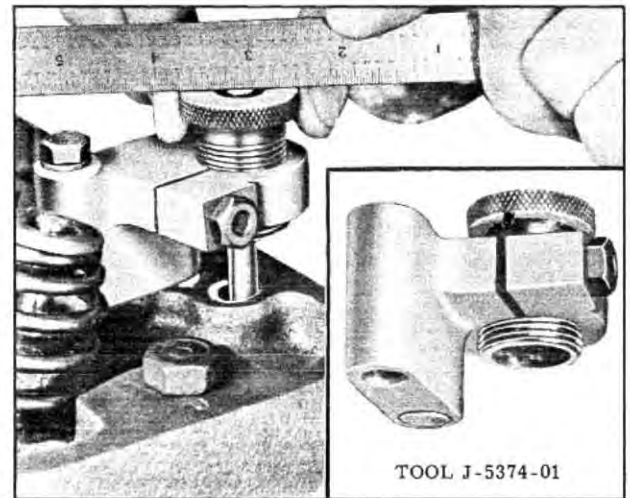

Fig. 2 Tool J-5374-01 in Position
5. Adjust main body of Gauge, so the step plunger contacts the push rod and the small diameter of the step plunger is flush with the top of the main body as shown in Fig. 2.